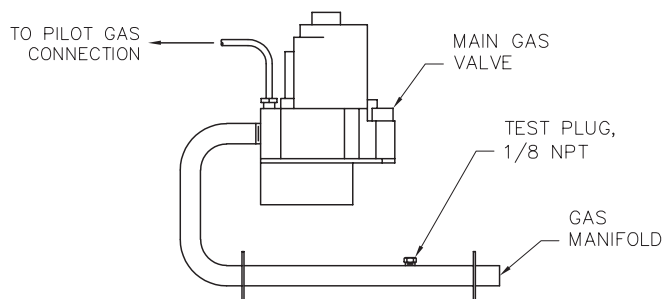

Figure 5.2: Gas Train Manifold 63-03L Through 63-06
8. Typical gas train manifolds are illustrated in Figure 5.2 through 5.4.